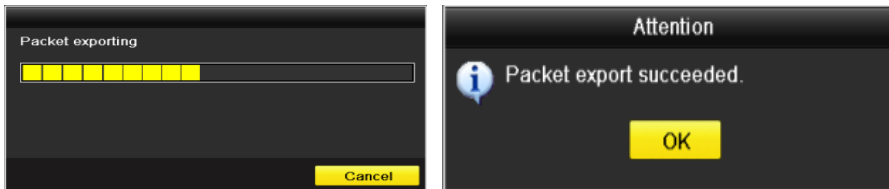

Figure 11-28 Packet Export Attention
Step 5 After the exporting is complete, click **OK** to finish the packet export, as shown in Figure 11-28.